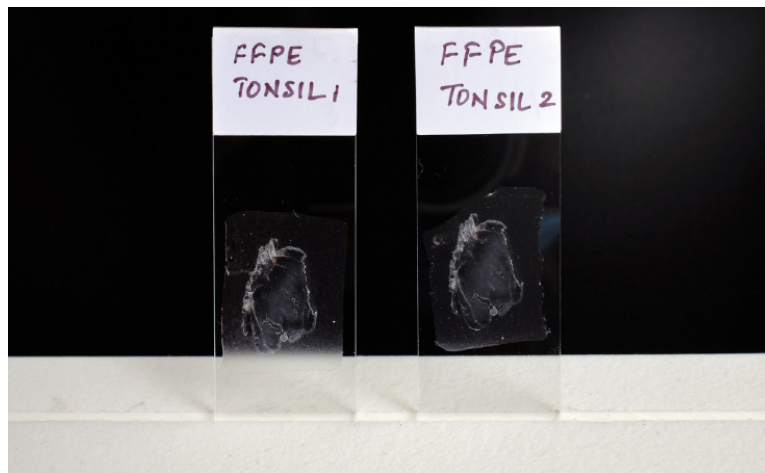

FIGURE 2.5. FFPE tissue drying overnight on angled slide holder.
9. With the tissue facing up, place the slide on a clean surface or on the angled slide holder and let it dry overnight at RT. (See Figure 2.5.)